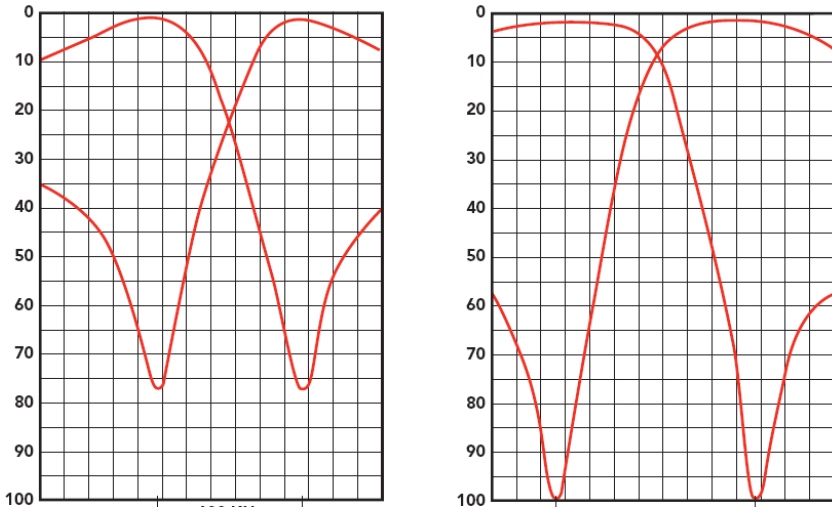

Figure 2 – Typical Pass Reject Duplexer Response
- ii. A pass reject duplexer may be used if it meets the minimum requirements for the transmitter and receiver filtering or external band pass filters are added to meets the minimum requirements for transmitter and receiver band pass filtering. See figure 2.